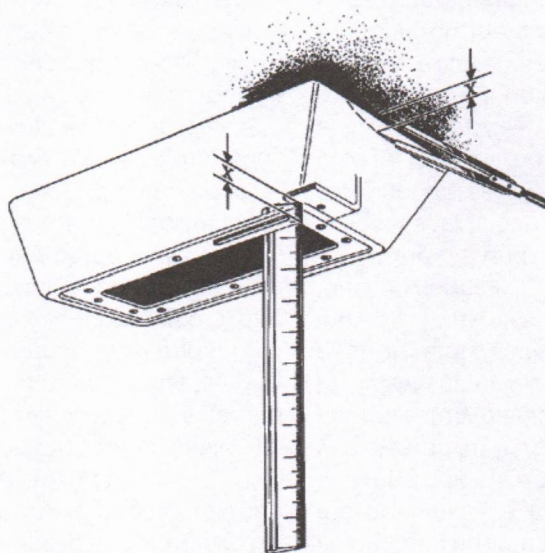

Figure 8
the tower level to the shifter mechanism with the bottom of the tower touching the highest surface on the floor it will come into contact with. Holding the tower in position, place one leg of the divider against the floor while the other touches the tower (See Figure 8). Using the dividers, scribe a line around the tower that follows the contour of the floorboard. Remove the tower and trim at the scribe line using tin snips. Once tower is properly trimmed, install it using two flat head sheet metal screws. The indicator cable and the cover plate should be routed out the top of the tower on the right side while the tower is being installed.
STEP 28. Place the tower over the shifter mechanism until the bottom edge of the tower touches the floor. Put the shifter cover and the indicator cable through the opening in the top of the tower. Hold the tower level to the shifter with the bottom of the tower touching the highest surface on the floor it will come into contact with (See Figure 8). Use a ruler to measure the distance X from the underside of the tower to the tower mounting brackets on the shifter mechanism.
STEP 23. Remove the two transmission oil pan bolts directly below the shift lever. Install the cable bracket in position, (See Figure 8), with two spacers